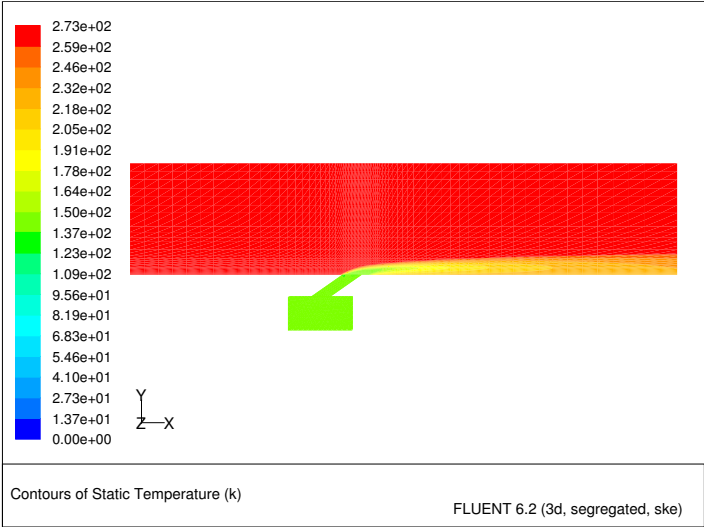

Figure 6.7: Contours of Static Temperature
2. Display filled contours of static temperature (Figures 6.7 and 6.8).
Figures 6.7 and 6.8 clearly show how the coolant flow insulates the bottom of the duct from the higher-temperature primary flow.